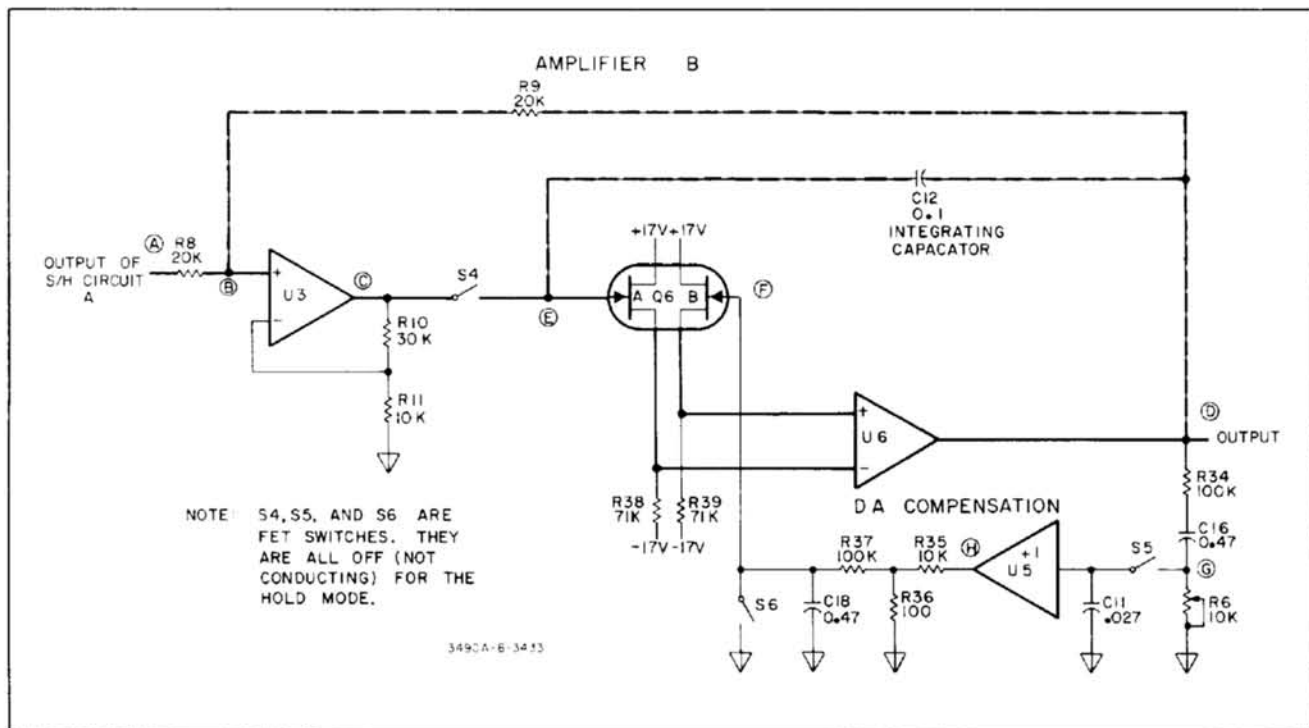
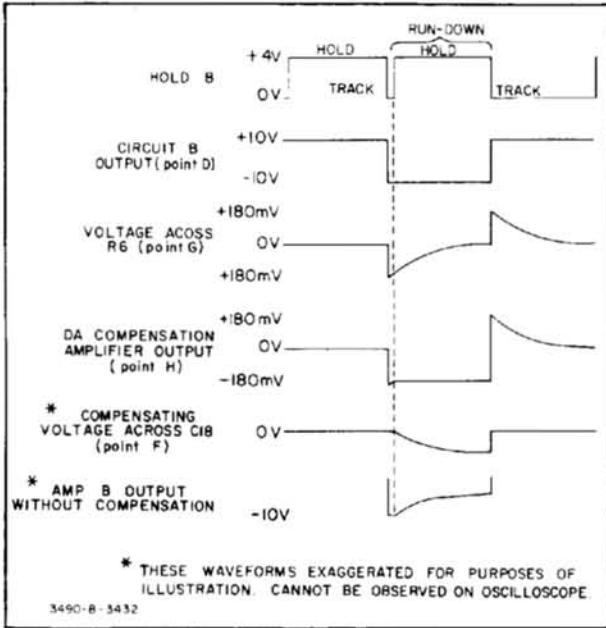

Figure 4-25. Simplified Diagram of S/H Circuit B.
Figure 4-26. Dielectric Absorption Compensation.
4-223. Circuit B. A simplified diagram of Sample/Hold Circuit B is shown in Figure 4-25. The operation of Sample/Hold Circuit B is similar to the operation of Circuit A. Circuit B responds more slowly than A and is able to hold a constant output level long enough for an accurate measurement to be completed. To allow time for Circuit B to respond to the output of A, the B Hold command occurs about 2 milliseconds after the A Hold command. The purpose of the amplifier circuit shown in Figure 4-25 between points D and F is to compensate for dielectric absorption in the integration capacitor, C12.
4-225. Compensation for Dielectric Absorption. To prevent deterioration of the Sample/Hold output signal due to dielectric absorption, an amplifier circuit is used between the output of Circuit B and the non-inverting input to the integrator portion of this circuit (points D and F in Figure 4-25). The waveforms in Figure 4-26 help to illustrate the action of the Dielectric Absorption (DA) Compensation circuit. During the Track Mode, S5 and S6 (Figure 4-25) are closed. Any change in the output voltage at point D causes current to flow through the rc circuit R34, C16 and R6. This current decreases as C16 assumes the new voltage. The resulting voltage across R6 is applied to C11 and the DA Compensation amplifier input. When a Hold B command occurs, S5 opens and the voltage across C11 remains at the level present at that moment. S6 also opens at this time, allowing C18 to begin charging slowly toward a voltage proportional to the charge on C11. The compensating voltage at point F is the voltage developed across C18. As the time increases between a voltage change at the integrating capacitor and the Hold B command, the need for compensation decreases, and the compensation provided also decreases.